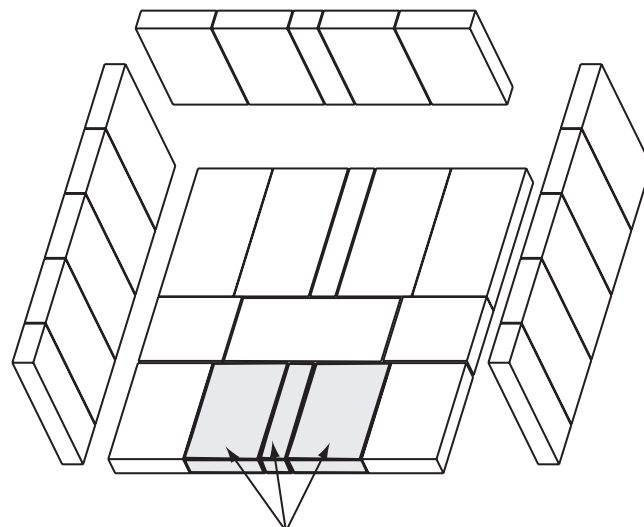
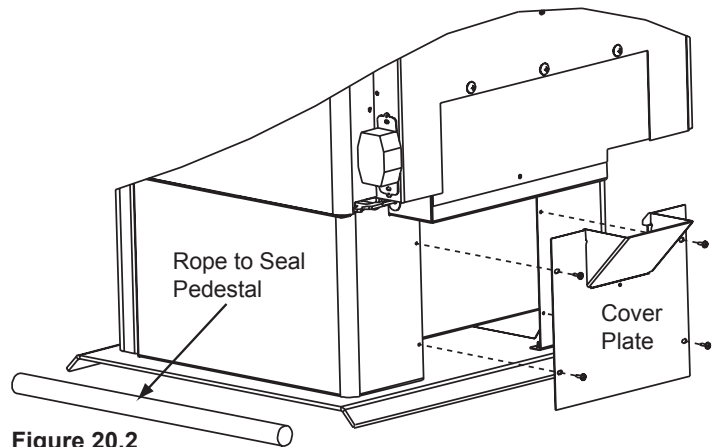

Figure 16.1
Figure 20.2
2. Remove the 3 bricks in the front most part of the firebox (**Figure 16.1**).
Cover plate and sealing rope (see Floor Installation Alternative below, **Figure 20.2**)
5. **Floor Installation Alternative:** In some instances you may not be able to install the flex pipe as show in **Figure 16.1**. If that is the case, you will need to order SRV7033-041 which includes a cover plate and sealing rope as shown in **Figure 20.2**. The goal is to seal the pedestal so no room air can leak into the pedestal or for cold air infiltration.